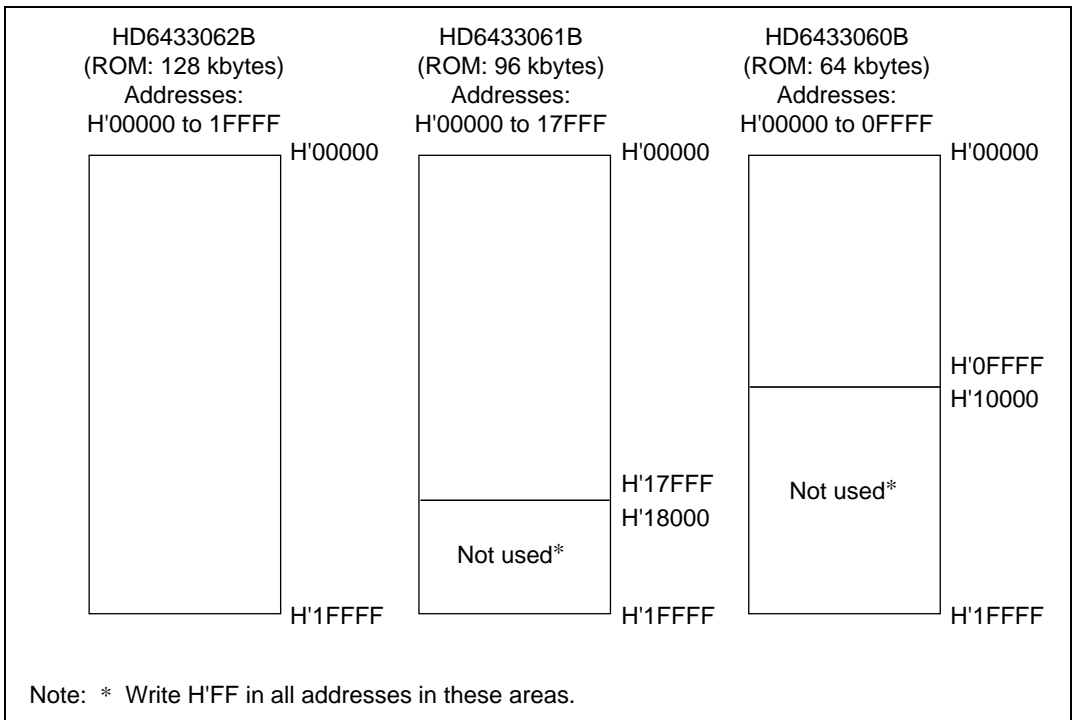

Figure 19.20 Masked ROM Addresses and Data
2. Fill all unused addresses with H'FF as shown in figure 19.20 to make the ROM data size 128-kbytes for the H8/3062, H8/3061, and H8/3060 masked ROM versions, which incorporate different sizes of ROM. This applies to ordering by means of an EPROM and by means of data transmission.